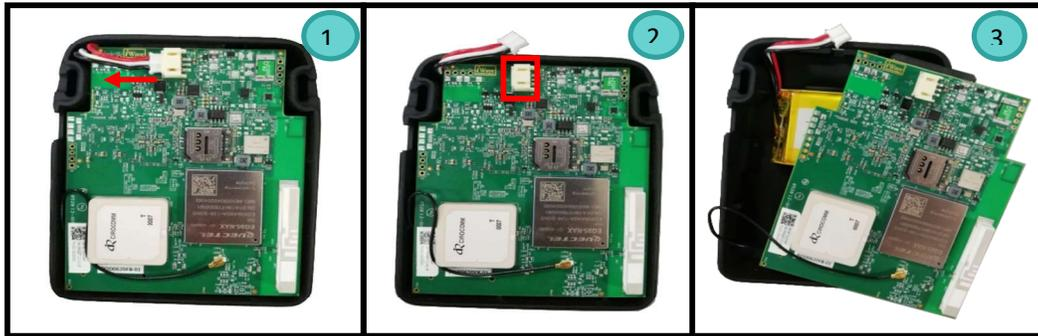

Figure 6 : Procedure to Remove Battery
- Remove the battery from the slot as highlighted in Figure 6